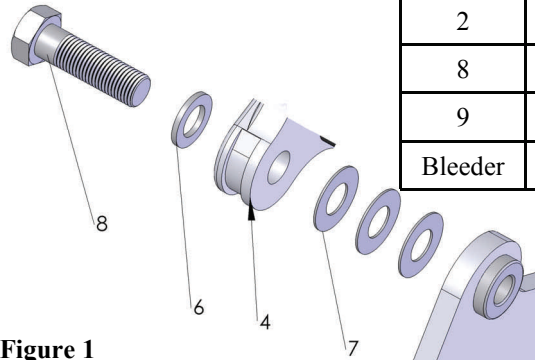

Figure 1
1.) Using one 3/8" washer (6) under the head of each 3/8" bolt (8), mount the calipers onto the caliper mounting bracket. Use .025" shims (7) to center the caliper over the rotor. The bolt (8) should be fully engaged into the press nut. If the bolt is over-engaged, used any remaining shims under the head of the bolt to prevent the bolt from running into the rotor. Press nuts and caliper should always be on opposite sides of the caliper mount. (Fig. 1).
2.) Remove caliper bridge bolt (9) and bridge bolt tube (5). Insert brake pads (3) and reinstall caliper bridge bolt and tube. Torque caliper mounting bolt to 35 ft-lbs. Then torque caliper bridge bolt to 10 ft-lbs. **DO NOT OVER-TIGHTEN**